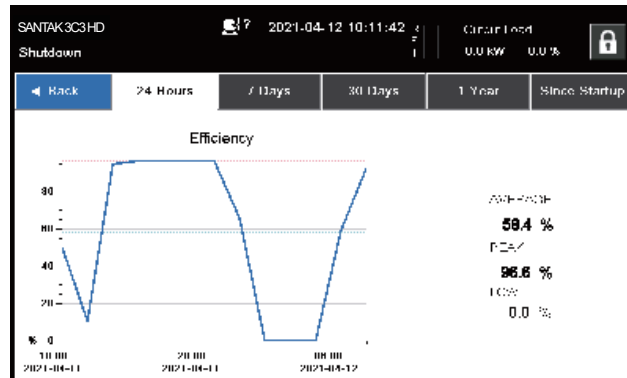
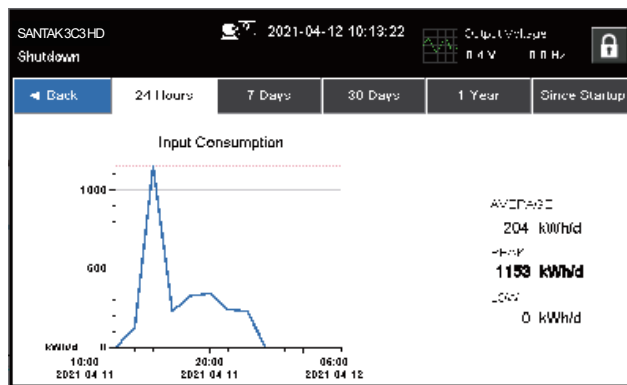

Figure 6-7: Average Efficiency Screen from Home Screen
Figure 6-8: Consumption Screen from Home Screen
- ③ See Figure 6-7 Average Efficiency Screen from Home Screen
- ④ See Figure 6-8 Consumption Screen from Home Screen
- ⑤ Schematic diagram showing the flow of electric energy
Touching the AVERAGE EFFICIENCY button displays the system efficiency screen shown in Figure 6-7.
Touching the CONSUMPTION button displays the screen shown in Figure 6-8.
- ① See Figure 6-7 Average Efficiency Screen from Home Screen ② See Figure 6-8 Consumption Screen from Home Screen